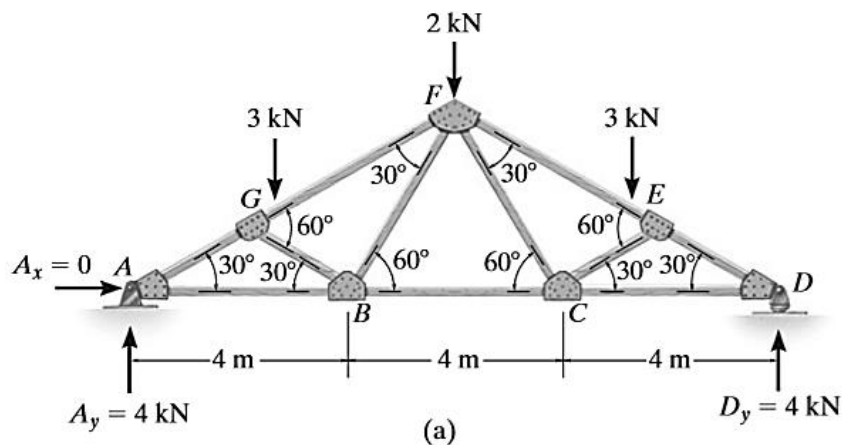

Fig. 2
2. Determine the force in each member of the roof truss shown in Fig. 2. State whether the members are in tension or compression.